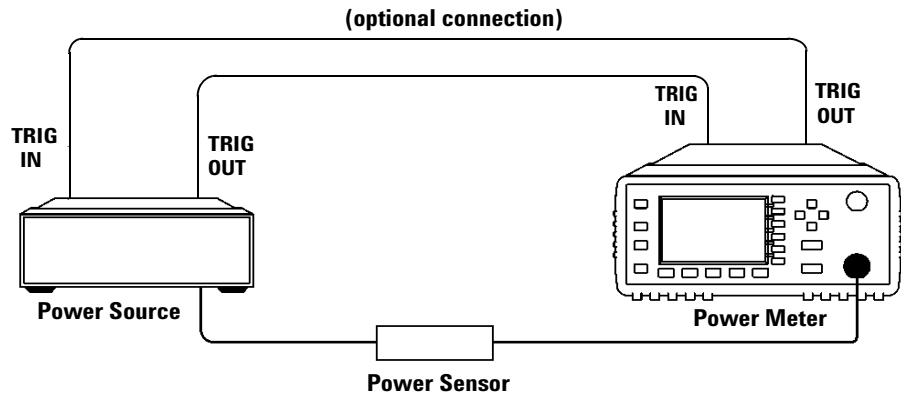

Figure 2-58 TRIG IN and TRIG OUT connection diagram between power meter and power source.
These modes are used to eliminate the need for lengthy test routines, while increasing measurement throughput by reducing overhead of communication with the controller. The sweep feature allows you to make power measurement by quickly stepping through a series of frequencies or power levels. Configuration shown in Figure 2-58 illustrates the triggering connection required to synchronize power meter measurement to the power source settings.
- 2 Connect power meter **TRIG OUT** to power source **TRIG IN** using a BNC cable. The same connection is applied for power source **TRIG OUT** to power meter **TRIG IN**. See Figure 2-58 on page 84.
- 2 Connect power meter **TRIG OUT** to power source **TRIG IN** using a BNC cable. The same connection is applied for power source **TRIG OUT** to power meter **TRIG IN**. See Figure 2-58.